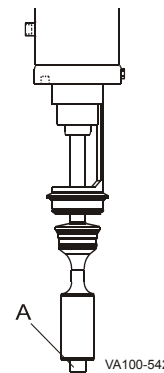

Figure 16 - Valve Stem Removal
1. Lower stem removal: Using an open end wrench, remove the lower stem (Figure 16, item A) from the actuator by turning it counter-clockwise.